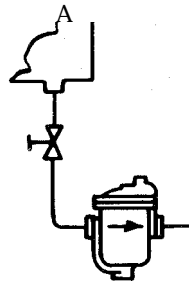

Fig. 1
1. Inverted Bucket Air Traps should be installed below and close to the unit being **drained** (see Fig. 1), or as